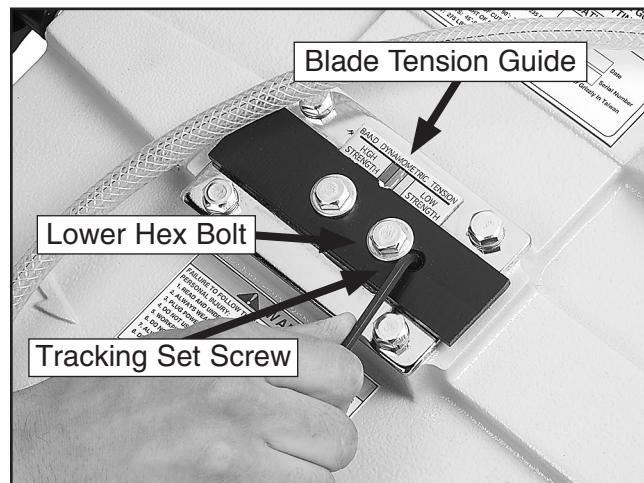

Figure 46. Blade tension guide.
2. Tension the blade until the blade tension guide indicator is in the green zone (**Figure 46**).
4. Loosen, but do not remove the lower hex bolt in the blade wheel tilting mechanism (**Figure 46**).
6. Adjust the set screw with a 4mm hex wrench shown in **Figure 46**, then tighten the hex bolt loosened in **Step 4**.